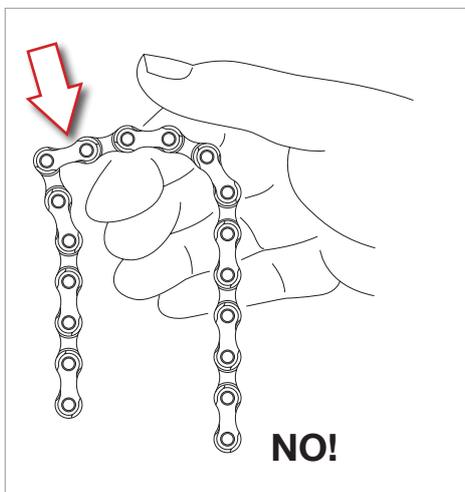

Fig.21
- Make sure that chain closure does not present any "harsh points" or links that do not bend freely (**Fig. 21**).